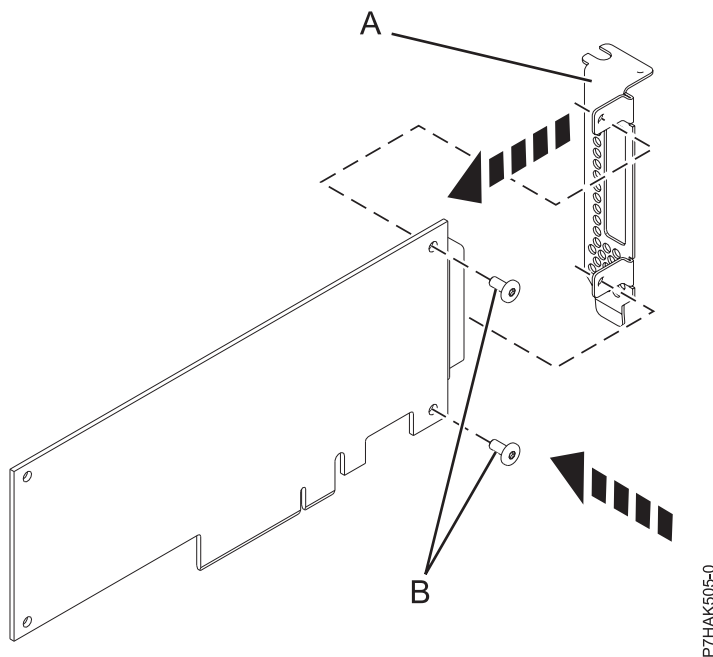

Figure 39. Attaching the low-profile tailstock to a PCIe adapter
14. Using a Phillips screwdriver and the two retaining screws **(B)**, attach the tailstock **(A)** from the failed PCIe adapter onto the new PCIe adapter, as shown in Figure 39.